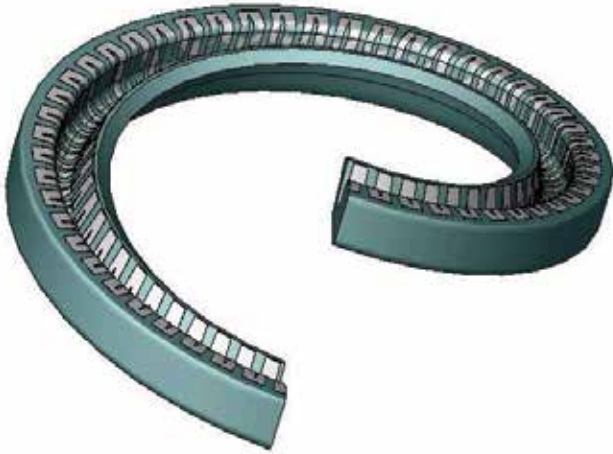

Fig. 63. Split the seal around the axis of rotation.
- Split the seal along the axis of rotation (shown in Fig. 63) and place the seal around the shaft.